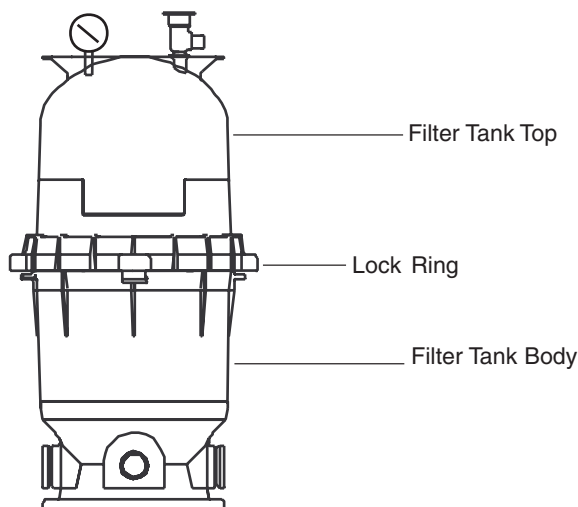

Figure 11.
2. Be certain the O-ring is in position in the lower tank half. Place the filter lid over the lower tank half. Make sure it is fully and firmly seated on the tank half. See Figure 11 on the following page.